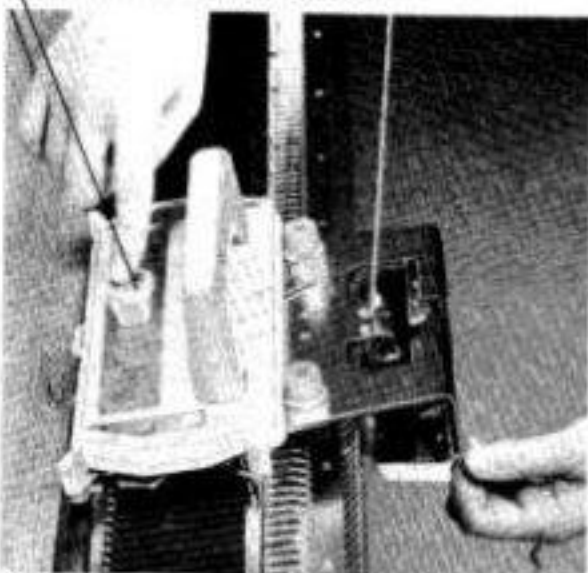
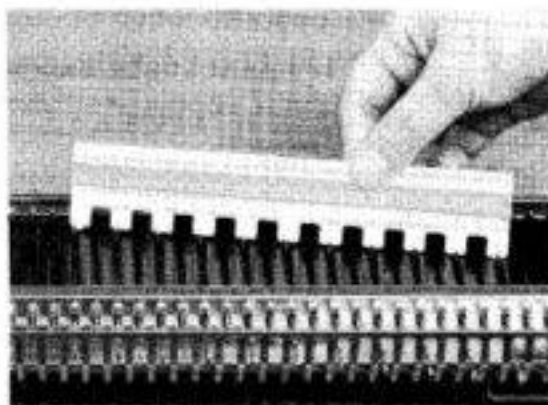

Fig.28
Fig.35
- (a) With the carriage on the right, bring both shifting cam levers back to "KNIT" position, set both return cam levers at "Position 1" and push downward the tuck knob. (Fig.28)
- (a) With the carriage on the right, push both shifting cam levers back to "KNIT" position, set both return cam levers at "Position 1" and push downward the tuck knob. (Fig.28)
- (b) Bring forward the number of needles required into working position (B).
- (c) With the 1 x 1 selector plate, push back into rest position (A) every alternate needle. (Fig.35)